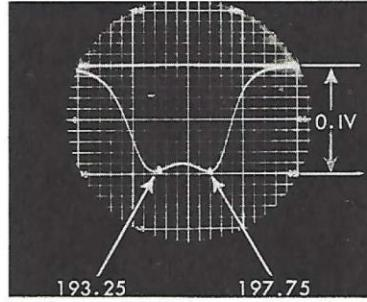

Fig. 11 Channel 10 RF Response, Target Tuner
4. Switch receiver and sweep generator to channel 10. Set bias for -2.5 volts. Do not exceed the 0.1 volt peak to peak output during alignment (Fig. 11).
5. Adjust the RF plate and mixer grid trimmers for a pattern similar to Fig. 11. Spread or squeeze the antenna coil for maximum amplitude of the response curve.